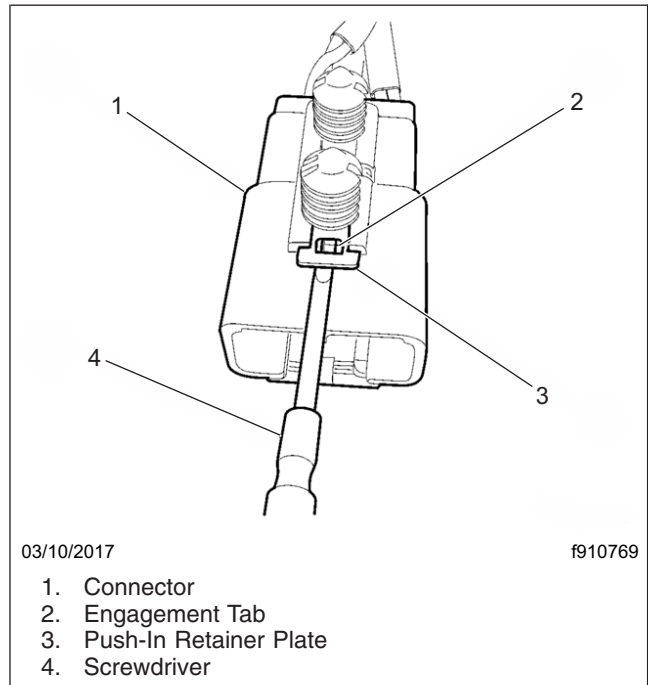

Fig. 4, Disengaging the Connector From the Push-In Retainer Plate
8. Using a small screwdriver, carefully pry the leading edge of the push-in retainer plate from the airbag inflator pigtail wire connector enough to clear the engagement tab. then slide the connector and retainer plate apart. See **Fig. 4**.